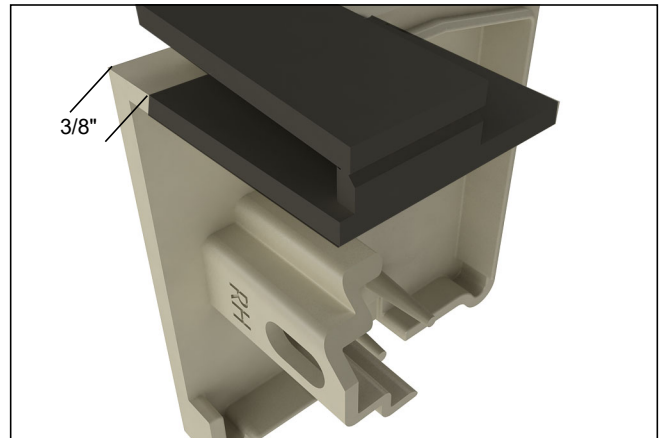

Figure 13
1. Modify sill end caps (both left hand and right hand) as shown in figure 13. Remove shaded area with utility scissors.